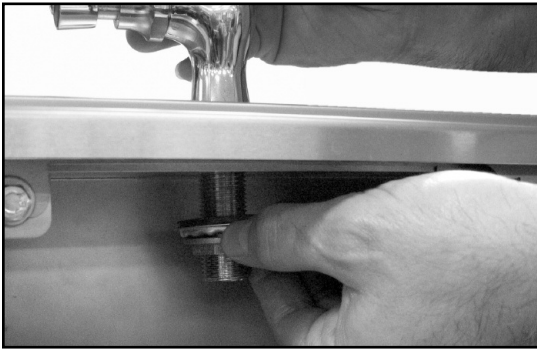

Fig. 42
1. Attach the faucet to the sink as shown in Fig. 42 and 42a.